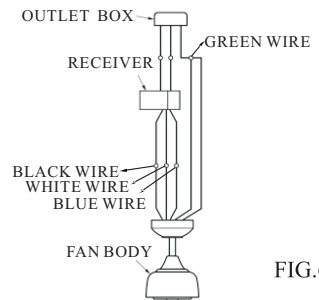

FIG.6
3. Install the safety cable into the building structure. (see Fig.6)
2. Connect the white wire from receiver to the white wire from fan with wire nut. Connect the black wire from receiver to the black wire from fan with wire nut. Connect the blue wire from receiver to the blue wire from fan with wire nut. Connect the green wire from ceiling, and green wire from hanger bracket with green wire from downrod ball with wire nut. (see Fig.6)